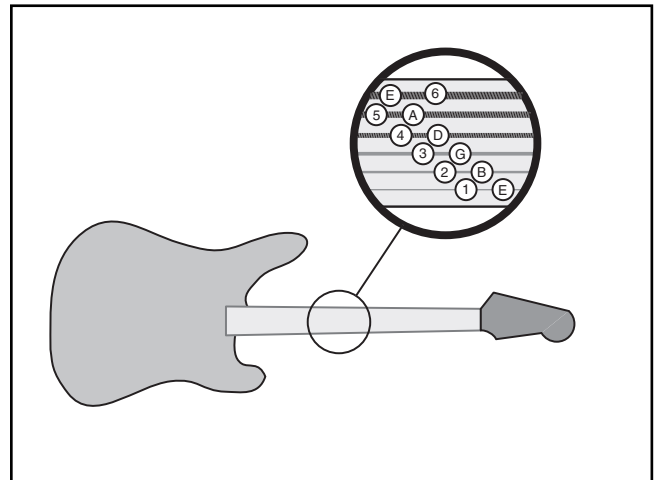

Figure 37. String tuning notes.
- The goal when tuning is to make the strings in tune with one another. Standard tuning is shown in **Figure 37**.